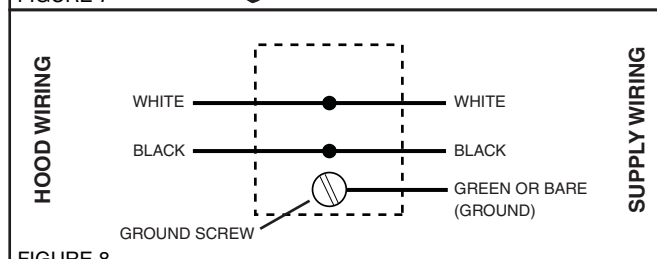

FIGURE 8
2. Refer to **Figure 8**. Make wiring connections.